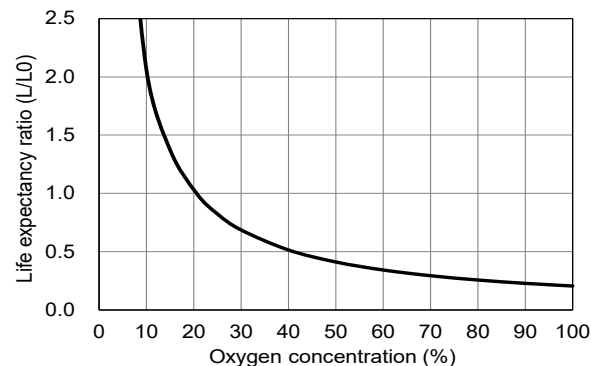

Fig. 8a - Relationship of life expectancy vs. O₂ concentration (L₀ = life at 20.9% O₂)
Figure 8a shows the relationship between life expectancy and O₂ concentration for KE-LF sensors. The Y-axis indicates the ratio of life expectancy in a given O₂ concentration (L) to life expectancy in natural air (L₀). The greater the O₂ concentration, the shorter the life expectancy. The influence of atmospheric pressure on life expectancy is estimated based on the O₂ concentration in a given atmospheric pressure.